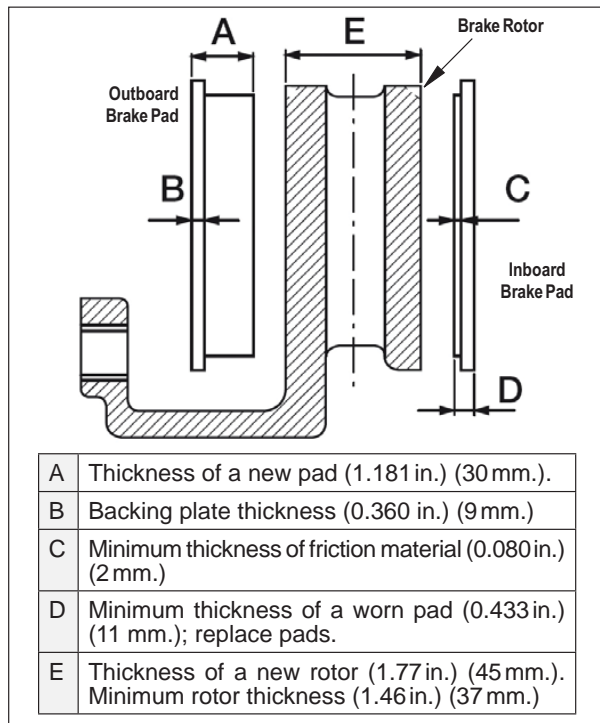

FIGURE 22 - PAD AND ROTOR DIMENSIONS
See Figure 22 for initial brake pad and rotor dimensions, as well as minimum acceptable dimensions.
4.3.1 See Figure 22. If the thickness of the friction material — dimension “C” — is less than 0.080 in. (2 mm.), the pads must be replaced.
4.4.1 Measure the thickness of the brake rotor at the thinnest point (Dimension “E” in Figure 22). Avoid measuring near the edge of the rotor as minor burrs may result in inaccurate measurement. **For Bendix® brand rotors, replace the rotor when the minimum thickness of 1.46 in. (37 mm.) is reached.** For other brands of rotors, refer to the rotor manufacturer’s guidelines.